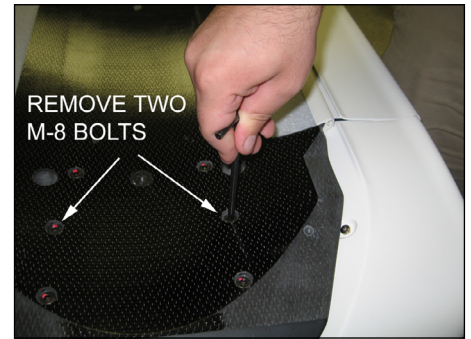

Fig. 53
4. Remove the CT cradle Center two Mounting Screws as shown (Fig. 53).